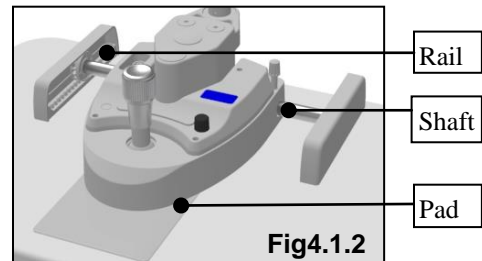

Fig4.1.2
2. Cleaning the pad, rails, and shaft: If the pad, rails, and shaft are not clean, the horizontal and vertical movements will not be smooth. Wipe clean with a clean soft cloth (see Figure 4.1.2).